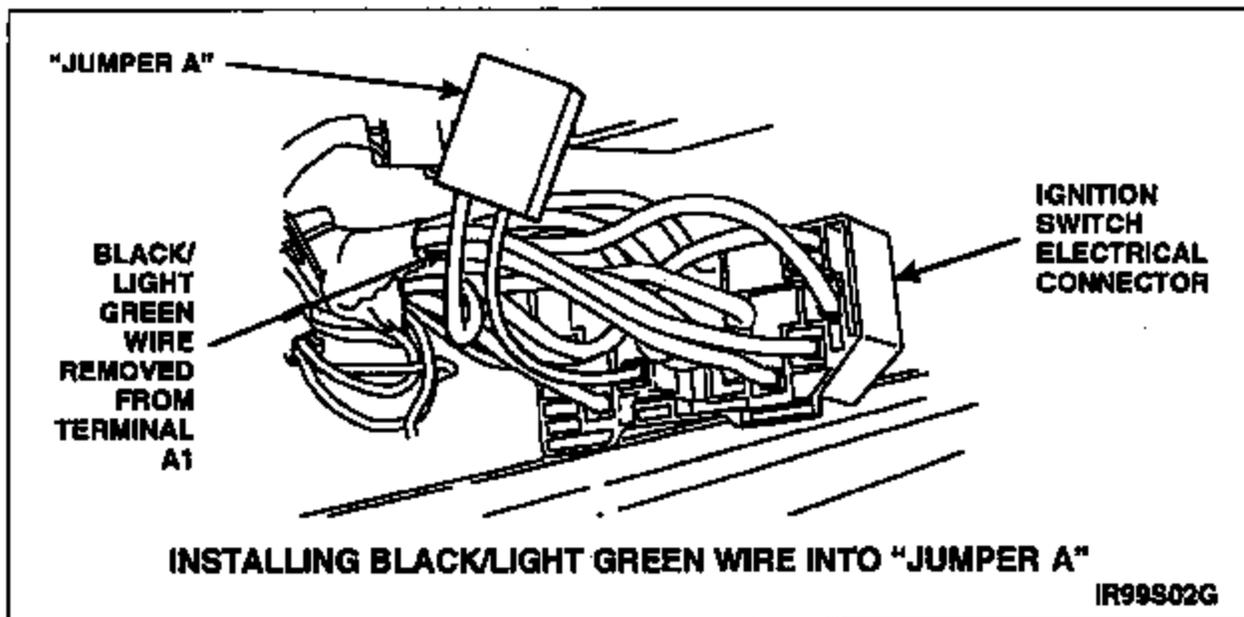

FIGURE 7
9. Install black/light green wire, circuit 297, into open slot of "Jumper A" connector. See Figure 7.